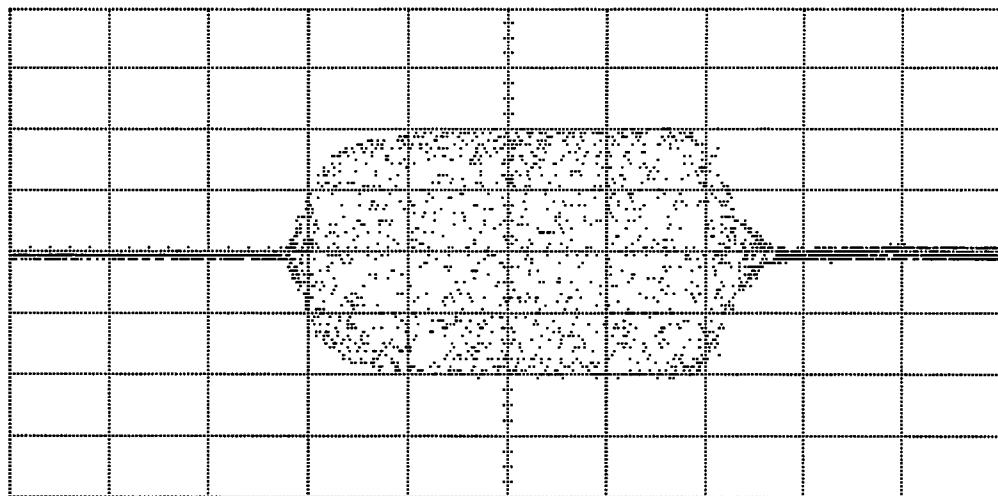

Figure 3-18. Pulse Width Measurement
2. Use the **DELAY** function on the oscilloscope to position the waveform to place the median of the rising edge on a vertical graticule. Refer to Figure 3-18.
6. Use the DELAY function on the oscilloscope to position the waveform to place the median of the rising edge on a vertical graticule. Refer to Figure 3-18.